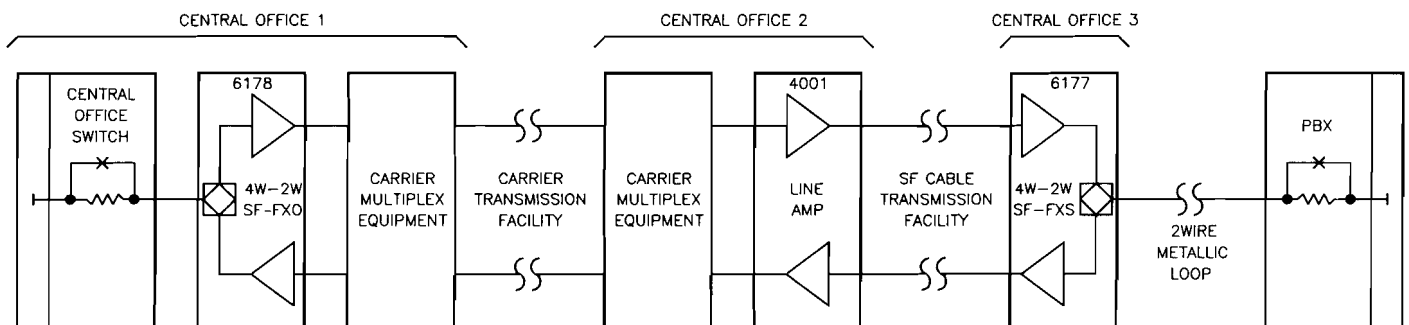

figure 2. Typical foreign-exchange (FX) application of 6178 module
2.01 The 6178 4Wire-to-2Wire SF-to-FXO Intermediate Repeater module is designed to interface a 4wire transmission facility that uses SF signaling with a 2wire metallic link that uses FXO signaling. This link is a line or trunk that typically terminates in a CO switch or PBX at the office (switching-equipment) end of an FX or OPS circuit. The 6178 module combines the functions of a 4wire line amplifier, an SF transceiver, an SF-to-FXO signaling converter, and a 4wire-to-2wire hybrid terminating set. No external interface circuitry is required because the 6178 is a complete SF signaling and terminating circuit, less power, on a single Type 10 card. Thus, the module provides not only bidirectional signaling conversion but also active transmission interface (impedance matching, level control, amplitude equalization, and 4wire-to-2wire conversion) between the SF facility and the FXO link. Figures 2 and 3 show typical applications.